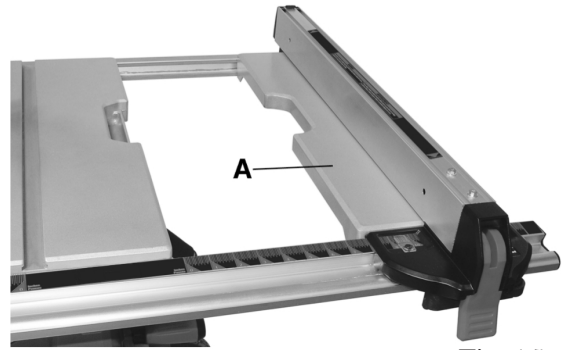
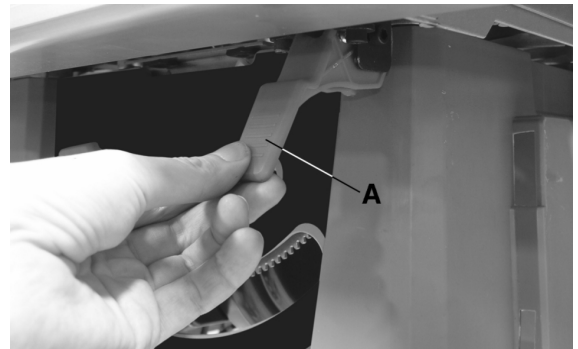

Fig. 15
Fig. 16
2. Unlock the extension table (A, Fig 15) by raising the extension lock lever (A, Fig 16), slide the extension to the desired width. Use the scale on the front rail when a specific width is desired.
3. Once the extension is in the desired position, lower the lock lever (A) to secure the extension in place. The rip fence can now be installed as shown in Fig 15.